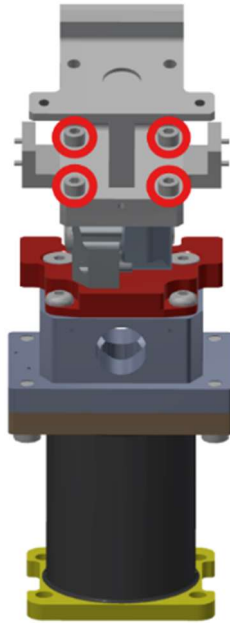

Figure 6-20. Remove the Lower Spine Box Assembly (474-3101-A) from the Spinebox Interface Plate (474-3072)
- 6.2.10 Remove the Lower Spine Box (474-3101-A) from the Spinebox Interface Plate (474-3072) by removing four M6 X 1 X 14 LG. SHCS (Figure 6-20).